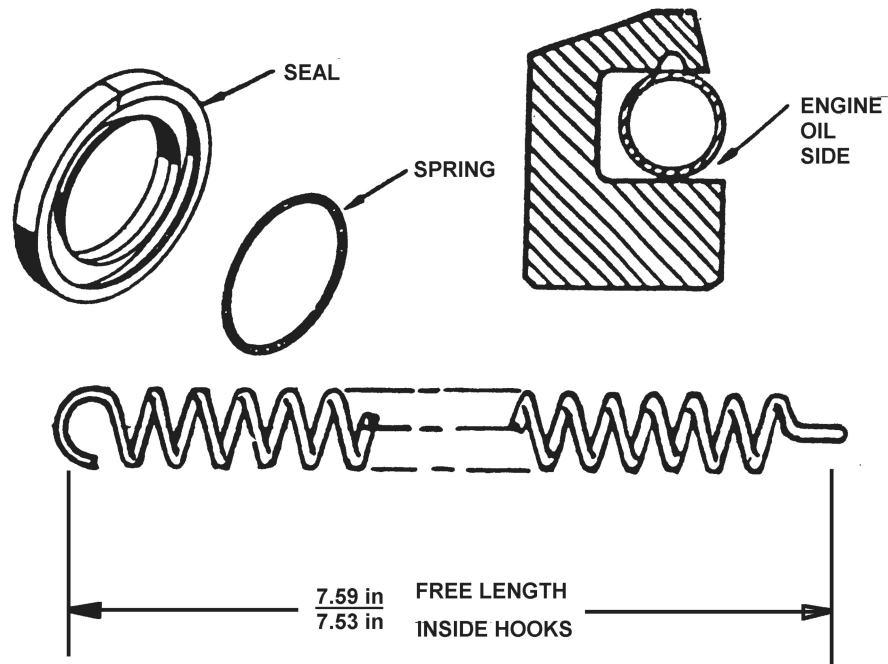

Figure 10-44. Split Nose Oil Seal Parts
3. Remove the spring (Figure 10-44) from the new crankshaft nose oil seal assembly and unhook the spring ends.
4. Verify the seal spring length is 7.53” to 7.59” as illustrated in Figure 10-44. If the spring length is not within this tolerance, replace it.